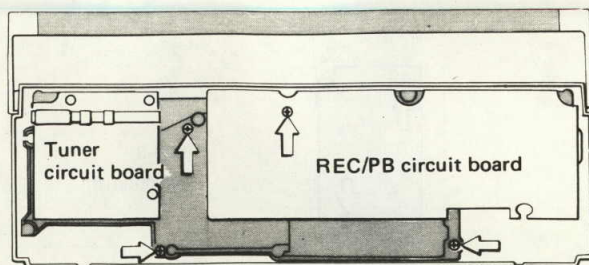

Fig. 3
- 2) Remove the 2 screws. (See figure 3)